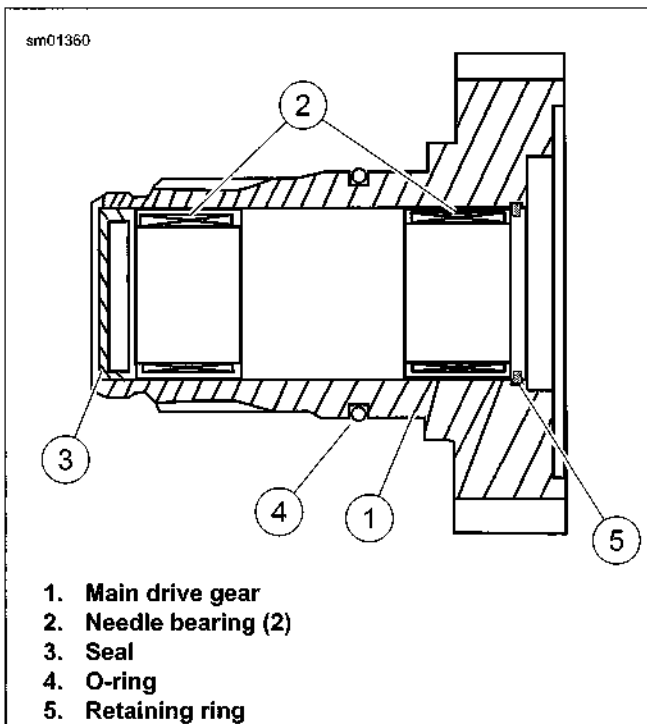

Figure 5-42. Main Drive Gear Assembly (typical)
2. See Figure 5-42. From inside right crankcase, tap out seal (3) at end of main drive gear (1). Discard seal.
2. See Figure 5-42. Drive out needle bearings (2) from inside bore of main drive gear (1). Discard needle bearings. Do not reuse bearings after removal from drive gear bore.
3. Remove and discard O-ring (4).